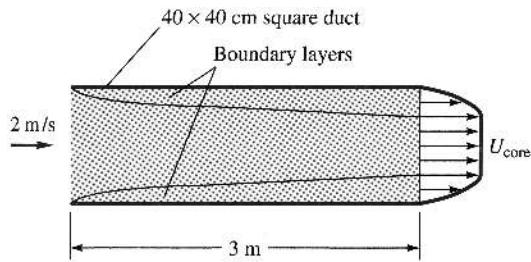

Fig. P7.7
**7.7** Air at 20°C and 1 atm enters a 40-cm-square duct as in Fig. P7.7. Using the “displacement thickness” concept of Fig. 7.4, estimate (a) the mean velocity and (b) the mean pressure in the core of the flow at the position  $x = 3$  m. (c) What is the average gradient, in Pa/m, in this section?